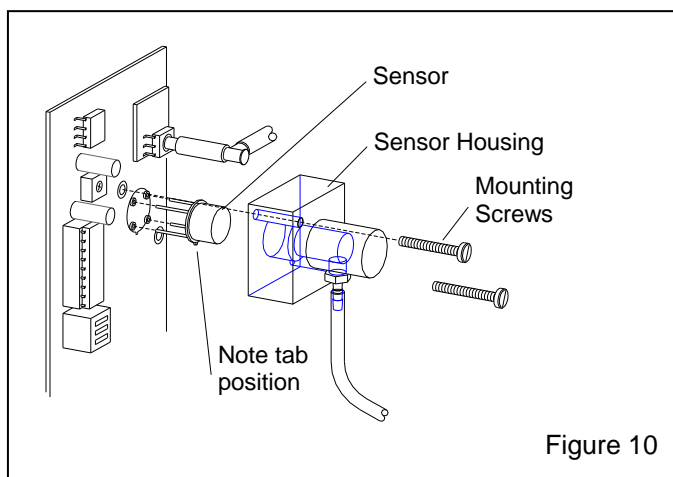

Figure 10
6.1.6 Locate the clear-plastic sensor housing, shown in Figure 10, and while supporting the circuit board, loosen the two mounting screws.
6.1.11 Handle the new sensor taking care not to distort the pins. Rotate the sensor so the tab is in the same position as was the old one (as shown in Figure 10) and plug the pins into the socket. Some pin alignment may be required, and is normal. Push firmly but carefully to seat the sensor. The sensor will stand off the circuit board by approximately 1/4" when seated.